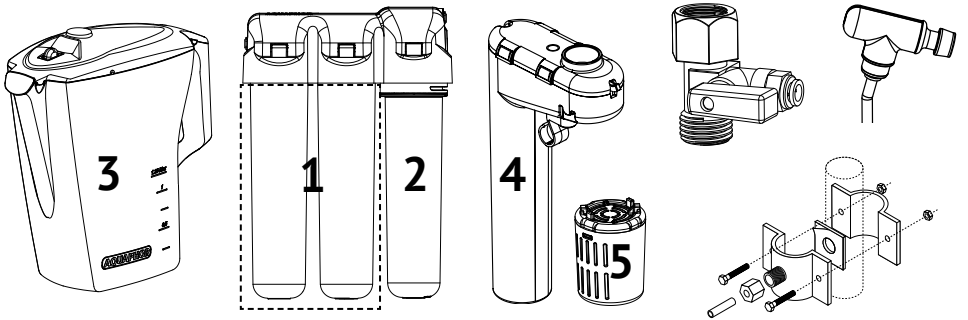
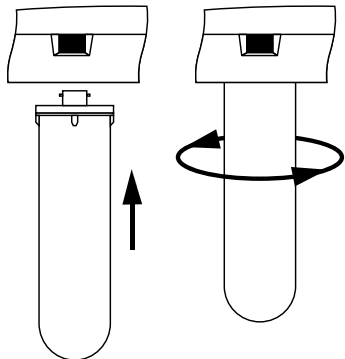
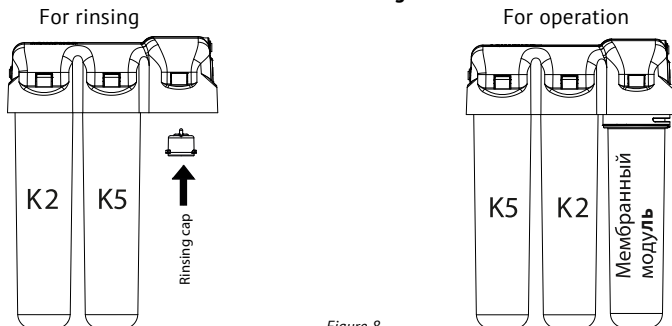

Figure 1
Figure 7
Figure 8
3. MAIN UNITS AND OPERATING PRINCIPLES OF DWM (Fig. 1):
- In accordance with (Fig. 8) "Position of the cartridges in the DWM", install the cartridges in the "rinsing" position (the rinsing cap shall be located under the lid of the water purifier - see. Fig 1). In order to do this, insert the cartridge into the corresponding manifold and turn it clockwise until it clicks (Fig. 7).